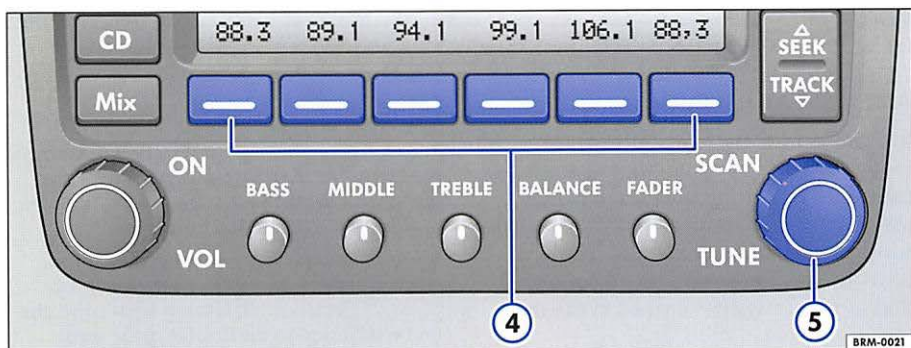

Fig. 24 SCAN/TUNE button
- Press and hold down the **SCAN/TUNE** button ⇒ fig. 24 ⑤ for longer than 2 seconds to enter the set up mode. You will hear a signal tone.
- In the lower part of the display the words **BASIC** and **DETAIL** will appear. By using the station preset buttons ④ select either the basic or detail display.